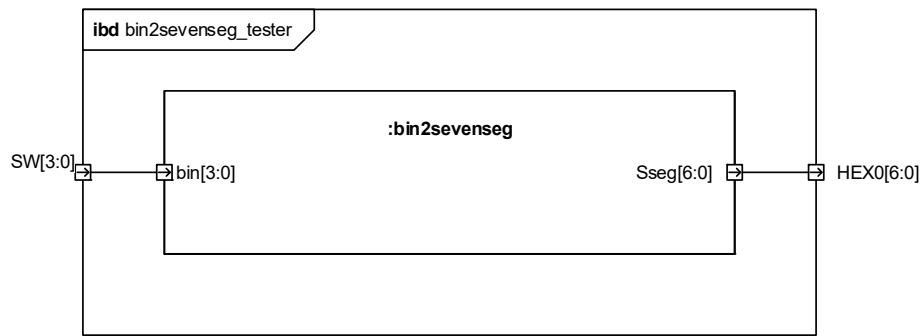

Fig. 1: Binary to 7-segment-decoder.
- Create a binary-to-7-segment converter component with the interface depicted in figure 1. The component must be implemented using a with-select statement. See the “DE-2 User Manual” for details about the sevensegment displays (named HEX displays in the text). The output must cover the hexadecimal values 0 to F. Also note that the segments are active-low.